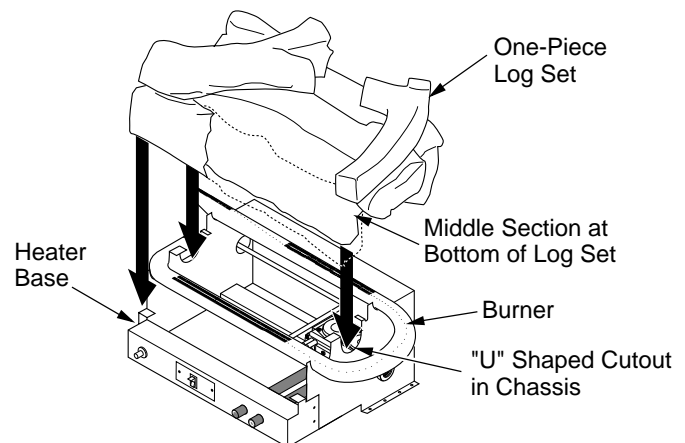
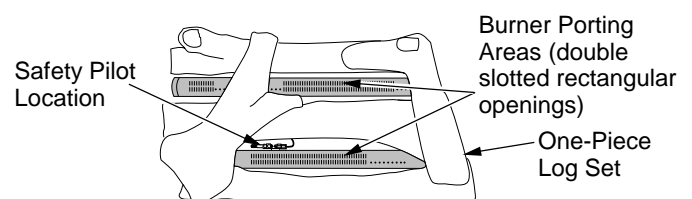

Figure 17 - Installing One-Piece Stove Log Set (Remote-Ready Log Heater Shown)
Figure 18 - Top View of One-Piece Log Set on Gas Log Heater
8. Set one-piece log on heater base as shown in Figure 17. Make sure middle section at bottom of log is seated into "U" shaped cutout in center of heater base. Log will fit securely on base. **IMPORTANT:** Make sure log does not cover any burner ports and does not touch the stove cavity (see Figure 18).
9. Fasten back panel to stove with six (6) M6 x 1.20mm bolts and washers. Make sure product identification label is located on the outside lower left-hand corner.
7. With control knob pressed in, press and release ignitor button. This will light pilot. The pilot is attached to the front burner (see Figure 18, page 10). If needed, keep pressing ignitor button until pilot lights.